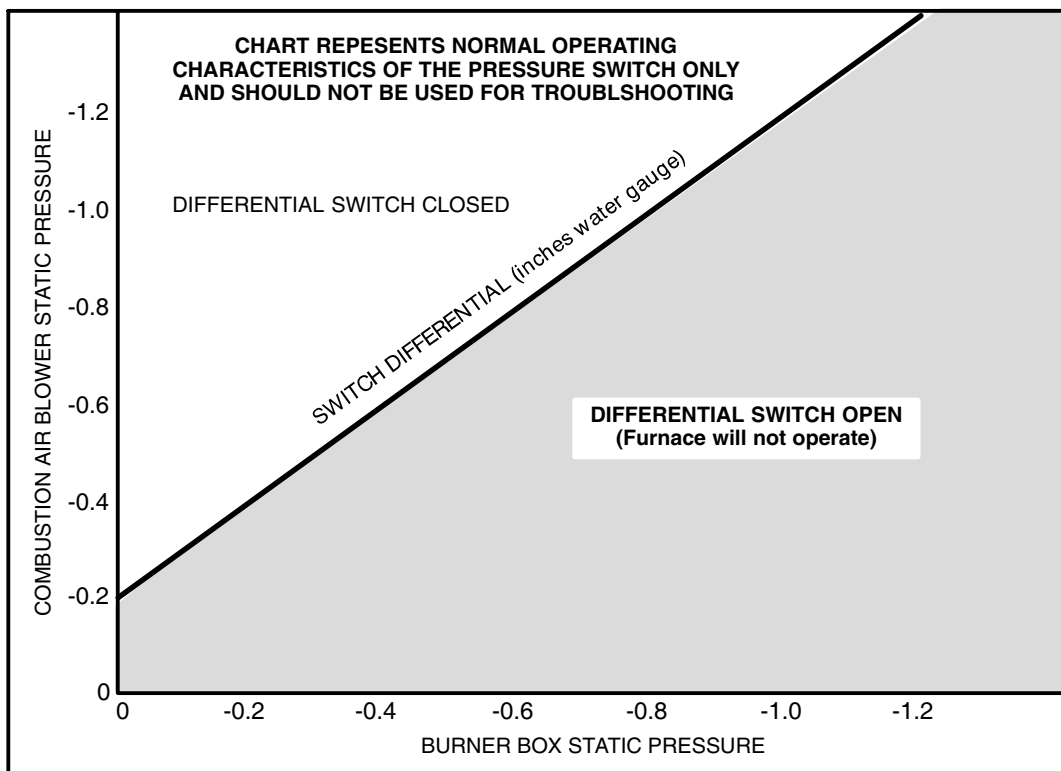

FIGURE 19
Figure 19 shows an example of the pressure differential (.20" W.C. shown) required to obtain unit operation. If the switch does not successfully sense the required differential, the switch cannot close and the furnace cannot operate.
Checks of pressure differential can be made as an aid in troubleshooting. It is important to remember that the switch must see the required differential in order for the furnace to operate. Lack of differential usually indicates problems in the intake or exhaust piping but may indicate problems in the heat exchanger, condenser coil, header boxes, combustion blower or other components. Generally, if both readings are closer to zero (figure 19) the unit may have a restricted flue outlet or other problem. If both readings are farther from zero (figure 19) the unit may have a restricted flue inlet or other problem.
- b. Take a second reading after unit has reached steady state (approximately 5 minutes). Both readings should fall above the line shown in figure 19.
- 10 - Compare readings to figure 19. Be sure to compare only like readings (compare startup reading to startup reading, then compare steady state reading to steady state reading). Subtract the absolute steady state readings from one another. This will be the pressure differential. **In order for the furnace to operate, the larger negative must always be on the combustion**